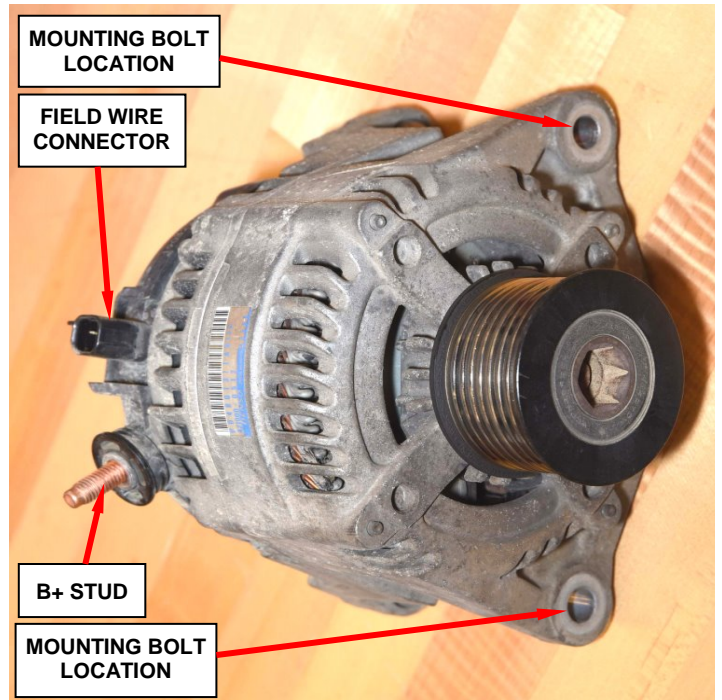

Figure 6 – Mounting Bolt Location
6. Remove and save the alternator retaining bolts (Figure 6).